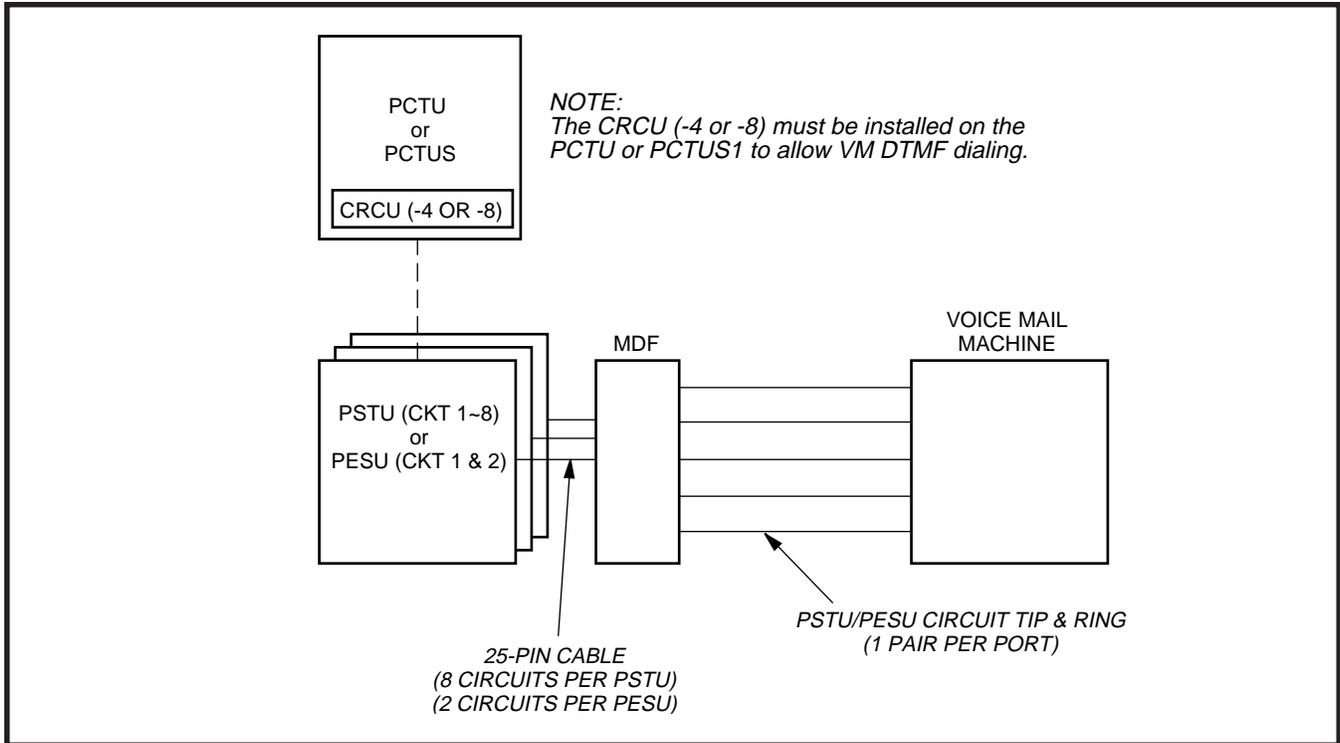

FIGURE 8-26
10.12 A block diagram of voice mail-to-PSTU or -PESU connection is shown in Figure 8-26. See section **400-096-206** for PSTU and PESU installation.